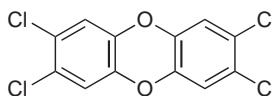

Figure 14.1
- A notorious family of POPs is the dioxins.⁷ Figure 14.1 shows the most toxic dioxin: 2,3,7,8-tetrachlorodibenzo-*p*-dioxin (also just called dioxin). It is one of the most toxic chemicals known.